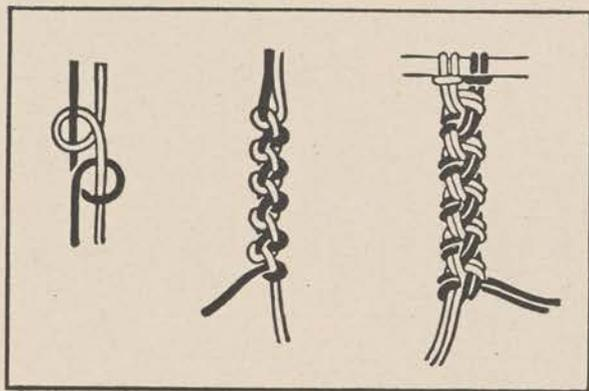

Figure 163.
d. The chain stitch is a variation of straight half hitching. It is done with two cords, each of which is alternately the working strand and the core (fig. 163). The right strand is first looped in a half hitch over the left, then the left over the right, and the knotting is continued thus until finished. A heavier chain can be made by doubling the strands and manipulating each pair as above.